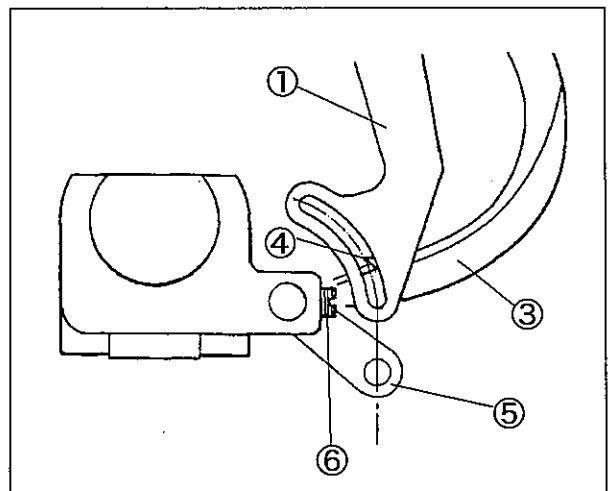

Fig. 49
- (1) Loosen the screw ⑥ of the top cover thread eyelet ⑤. (Fig. 49)
- (3) Set the eye of the top cover thread eyelet ⑤ along the extending line from the slot of the top cover thread guide ①. (Fig. 49)
- (4) Tighten the screw ⑥ securely. (Fig. 49)